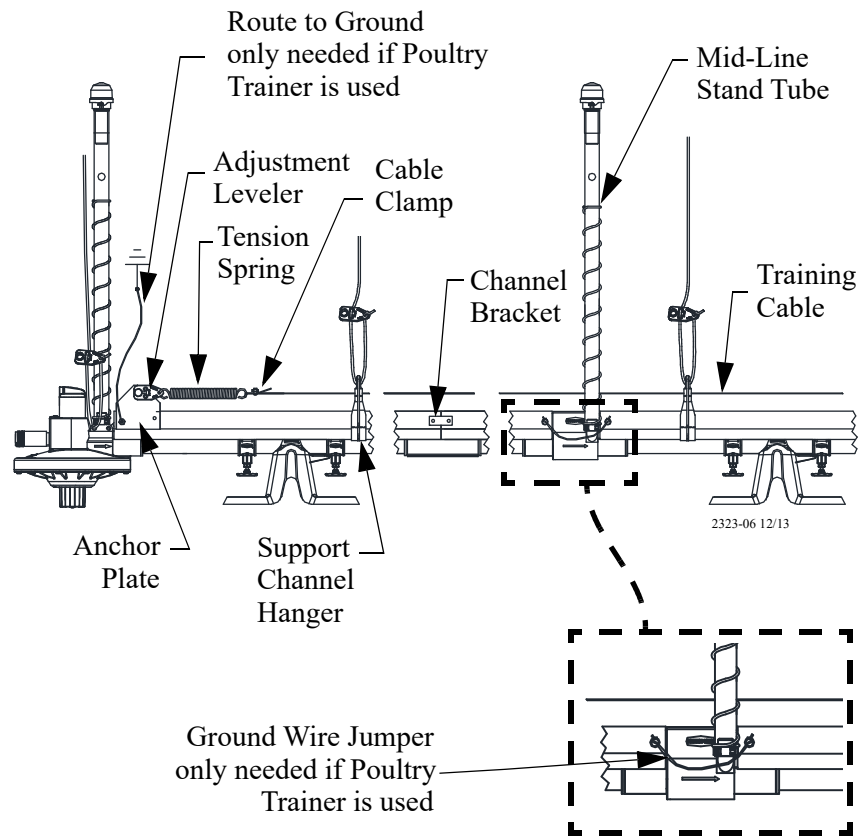

Figure 26. Anti-Roost Components
1. Make certain that an anchor plate with adjustment leveler is installed at the beginning and end of each anti-roost line. See **Figure 26**.
12. **Optional Equipment:** Secure the poultry trainer to a wall or post near the water line. Chore-Time recommends wiring the poultry trainer into separate electrical circuit that can be switched at the door. Refer to the instructions supplied with the poultry trainer for wiring information. Note: Make sure that the support channel is attached to a ground (to insure proper operation of the poultry trainer). Also when mid-line stand tubes are used a jumper wire will need to be installed to continue electrical current. See **Figure 26**.